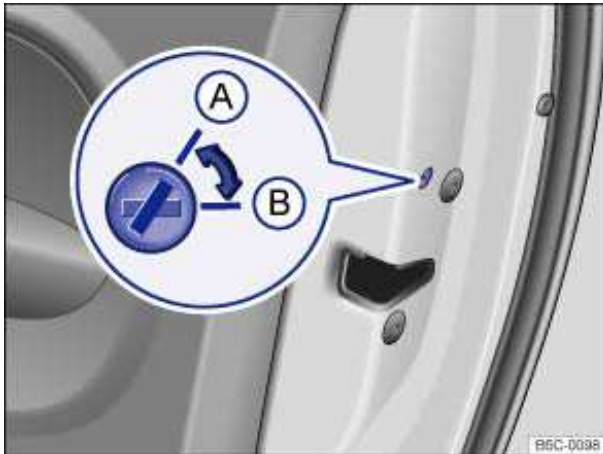

Fig. 131 On the edge of the passenger door: A unlocked, B locked.
- Insert the key bit into the slot and turn to the locked position ⇒ fig. 131 \(B\).